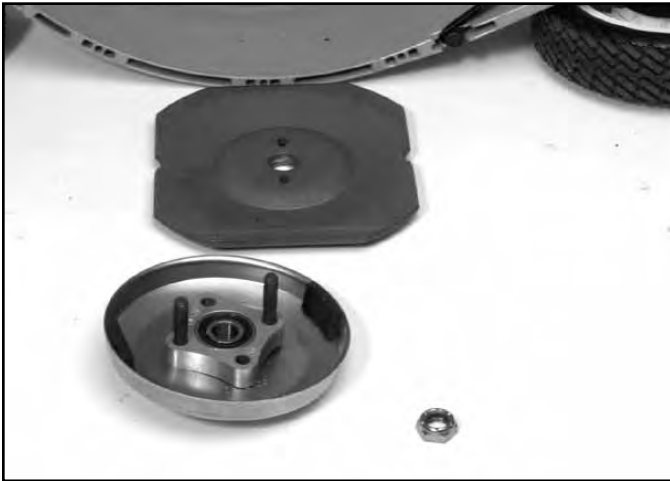

Fig 224
7. Remove the hub assembly and brake drum. The flywheel is pressed onto a taper on the crankshaft. It might require a tap with a hammer to loosen (Fig. 224).